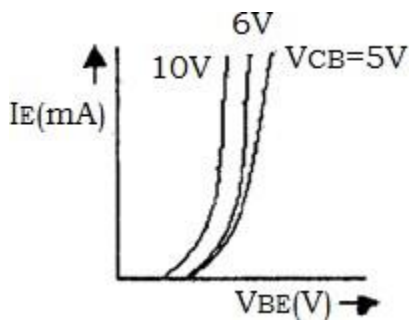

Figure 2 Input Characteristics
4. Plot the input characteristics as shown in fig.2 and calculate h-parameters h_{ib} , h_{rb} from the input characteristics.